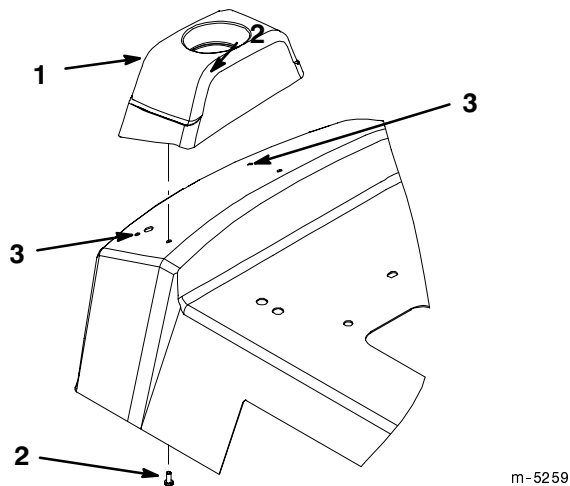

Figure 3
1. Place cup holder onto tractor fender and install with screws as shown in figure 3.